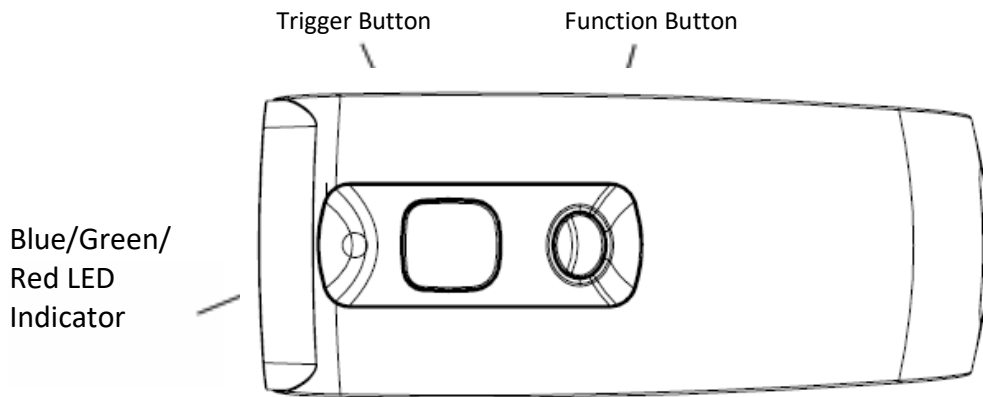

Figure 1-1: Trigger Button and Function Button positions
AS10's LED indicators use three colours: blue, green and red, as per Figure 1-1. In combination with the buzzer they indicate different conditions, in Configuration Mode.
Press the Trigger Button for 2 seconds without releasing, as per Figure 1-1. The unit will emit one (1) long beep and light the LED red. When the sound then stops and the light goes off, the reader successfully powers up.